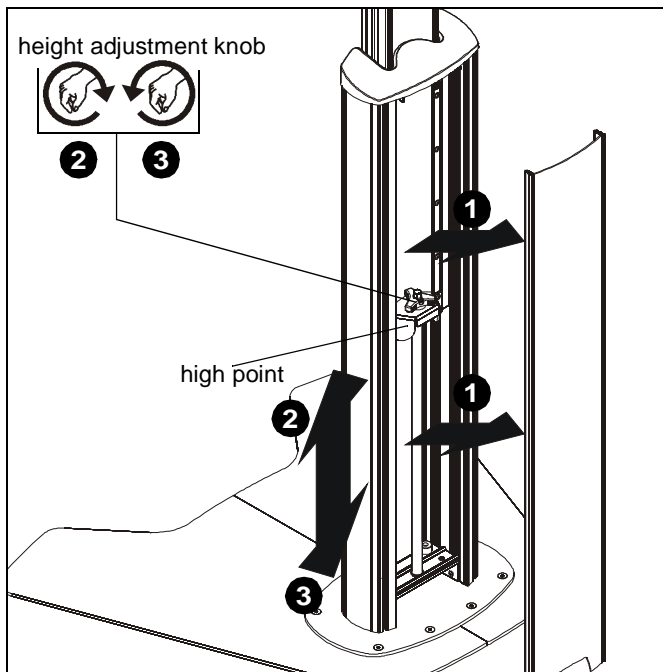

Figure 13
1. Remove cable cover (G) to expose height adjustment knob.
2. Turn height adjustment knob clockwise to raise display. (See Figure 13)
**WARNING:** Do not attempt to raise or lower the adjustment carriage beyond its upper or lower limit. High and low points are shown in Figures 13 and 14.
4. Reinstall cable cover (G) to column assembly.